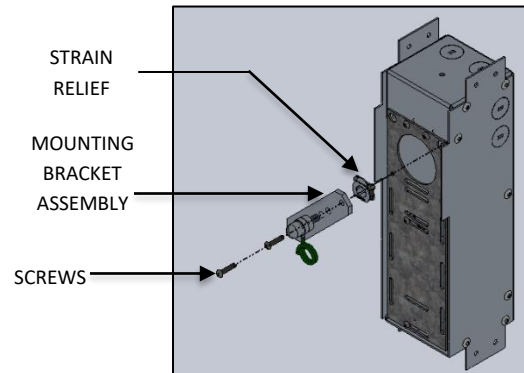

FIG.11 – MOUNTING BRACKET DISASSEMBLY
2. Remove the SCREWS securing MOUNTING BRACKET ASSEMBLY, and slide MOUNTING BRACKET ASSEMBLY out of J-BOX along with STRAIN RELIEF provided in it as shown in FIG. 11.